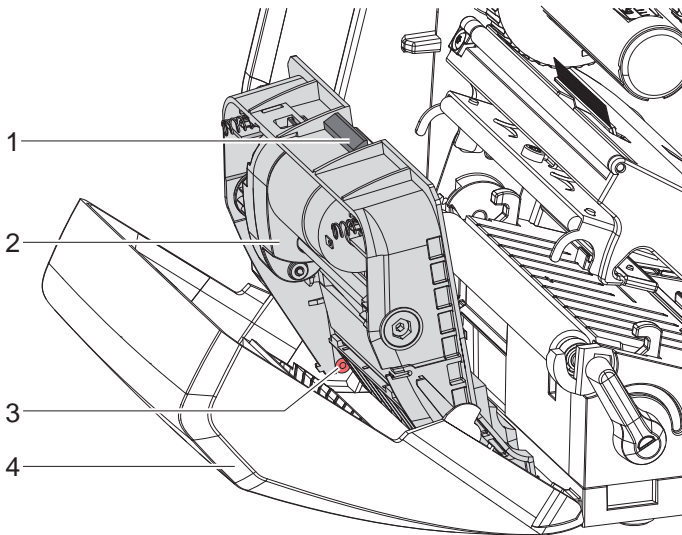

Figure 4 Dismount the cutter
- ▶ Turn the shaft (6) clockwise using a torx wrench TX10 until the gear racks (7) cannot engage anymore.
- ▶ Pull the upper blade (9) out of the guides (8).
- ▶ Take out the lower blade (10).
- ▶ Push the lower blade down into the guides (11).
- ▶ If necessary, put the springs (12) back into the spring retainers (13).
- ▶ To re-mount the upper blade push the lower blade down on the cover and push the upper blade into the guide until the gear racks (7) can engage with the gear wheels (5).
- ▶ Turn the shaft (6) counterclockwise using a torx wrench TX10 until the blade reaches the upper limit.
5. Fit the blade unit (3) according to Fig. 4 into the axes (2) and fold it towards the cover (4) until it snaps in.